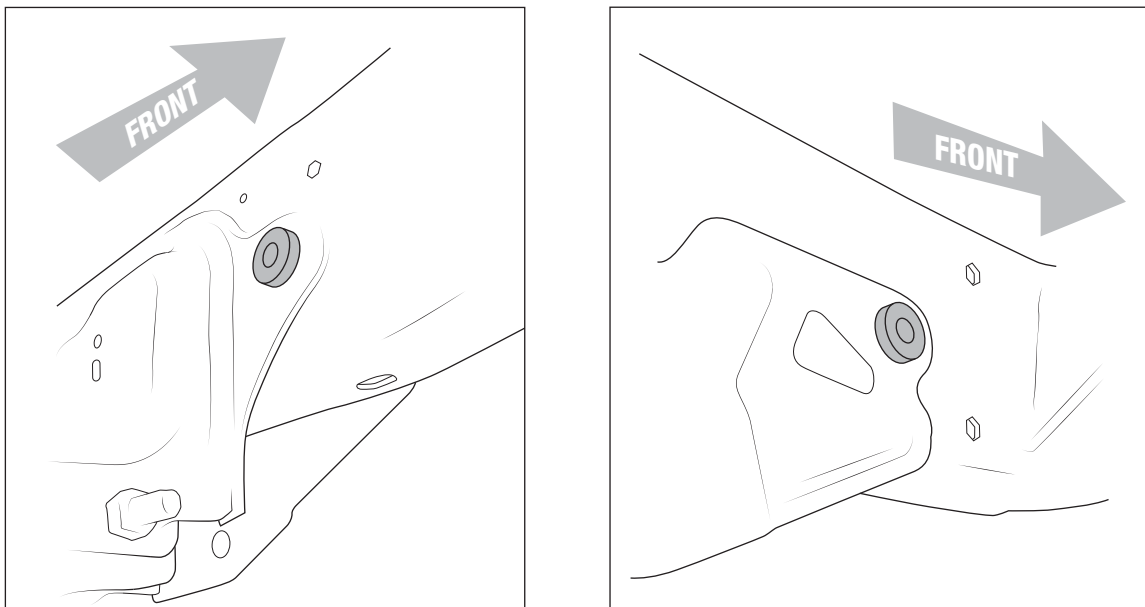

Figure 10 – Left: Inside Right: Outside
- d. Install the supplied spacers on each side of the frame rail as shown (fig. 10).